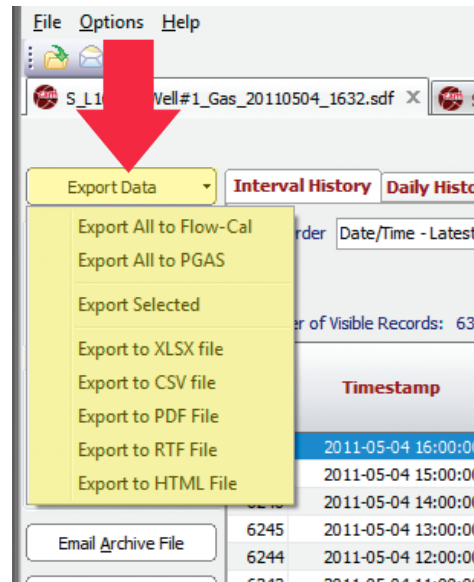

Figure 3.1—Export Data button and dropdown menu
The **Export Data** button and dropdown menu (Figure 3.1, page 30) act as the gateway for all exporting functions.
3. Click on the **Export Data** button in the left column of the screen and choose **Export Selected** from the dropdown menu (Figure 3.1).
1. Click on the **Export Data** button in the left column of the screen and select **Export to...** from the dropdown menu (Figure 3.1, page 30).
2. Click on the **Export Data** button in the left column of the screen and click the desired **Export All as...** selection from the dropdown menu (Figure 3.1, page 30).